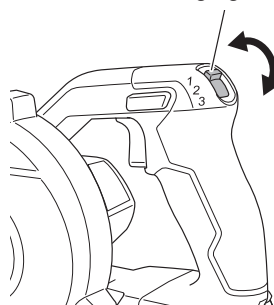

Fig. 14
- **Air volume control function (Fig. 14)**